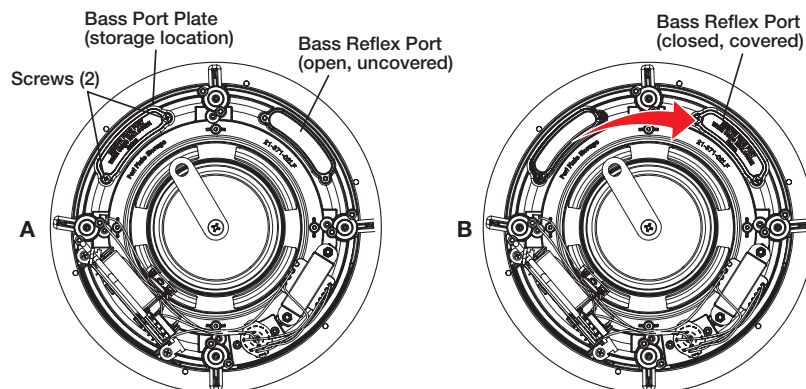

Figure 11. Configuring the Bass Reflex Port Plate
- **With the CS 120P (default configuration):** Leave the plate in its default location. The port must be left **uncovered** (see **A** in figure 11).
- b. Attach the plate to the bass reflex port using the two screws that you removed in step a (see **B** in figure 11).